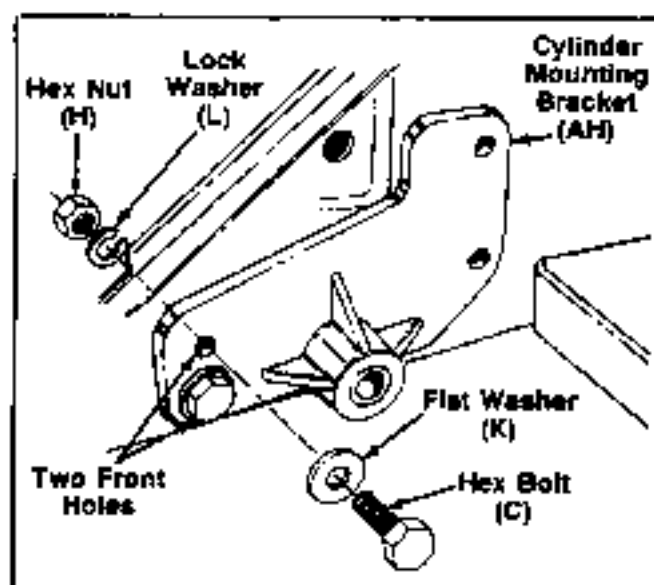

FIGURE 16.
- Assemble the cylinder mounting bracket (AH) to the left hand side of tractor frame using two front holes, with two hex bolts (C), flat washers (K), lock washers (L) and hex center lock nuts (H) loosely at this time. See figure 16.